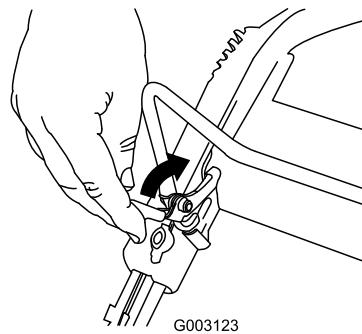

Figure 18
1. Pull the control-bar lock back (Figure 18).
To shut off the engine, press and hold the engine-shutoff button (Figure 18) until the engine shuts off.